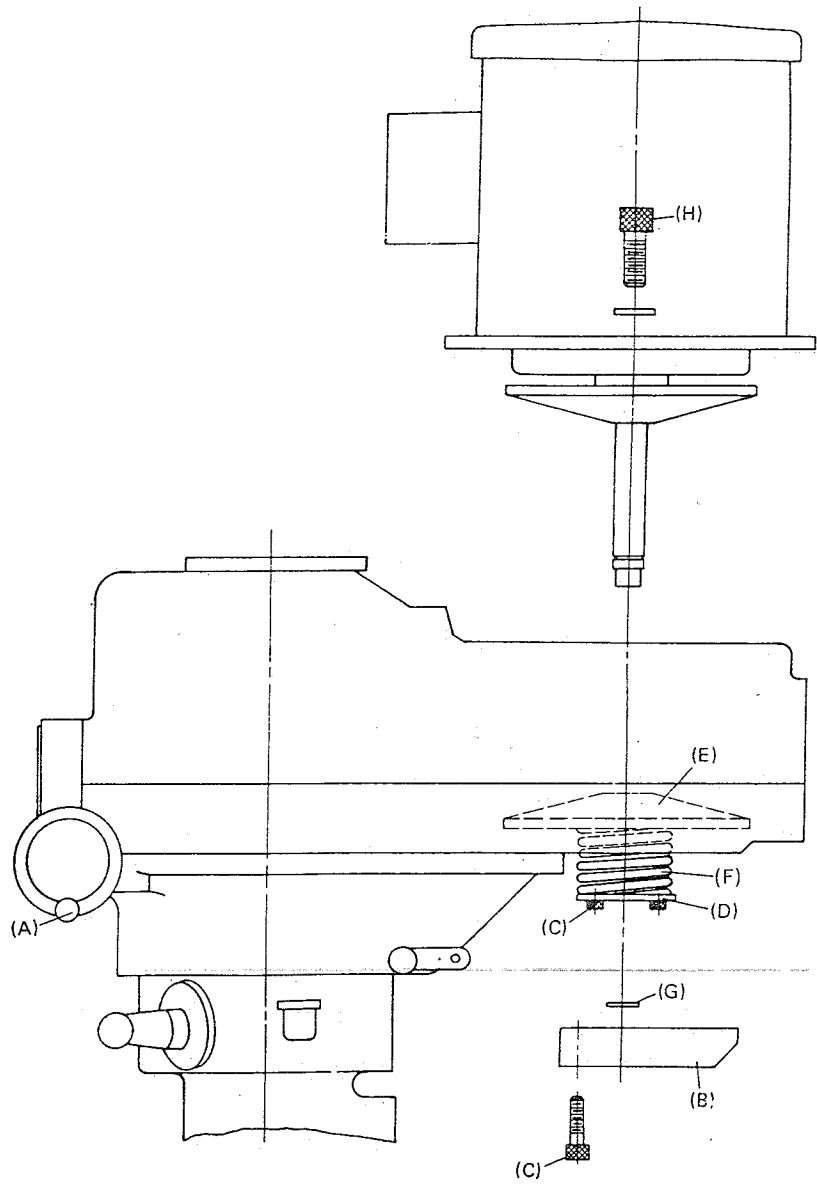

Figure 17
(1) Dismantling of VS Motor (as shown in Figure 17) :
- a. Start the motor and turn the speed change handwheel (A) to the position of 60RPM appeared on the indicator to lower down the stationary motor vari-disc to the lowest position.
- c. Remove motor pulley cover (B) under the motor shaft. Then, use the two hexagonal concave bolts (C) that locked the bearing housing, to insert into the two holes of the speed change spring pieces (D). Lock into the motor vari-disc (E) and evenly lock up the two bolts (C). Push down the speed change spring(F) so as to separate it from the retainer ring (G).
- e. Take off the two hexagonal bolts (H) that locked the motor. The motor may be lifted up. Motor vari-disc (E) and speed change belt are still kept inside the belt housing.